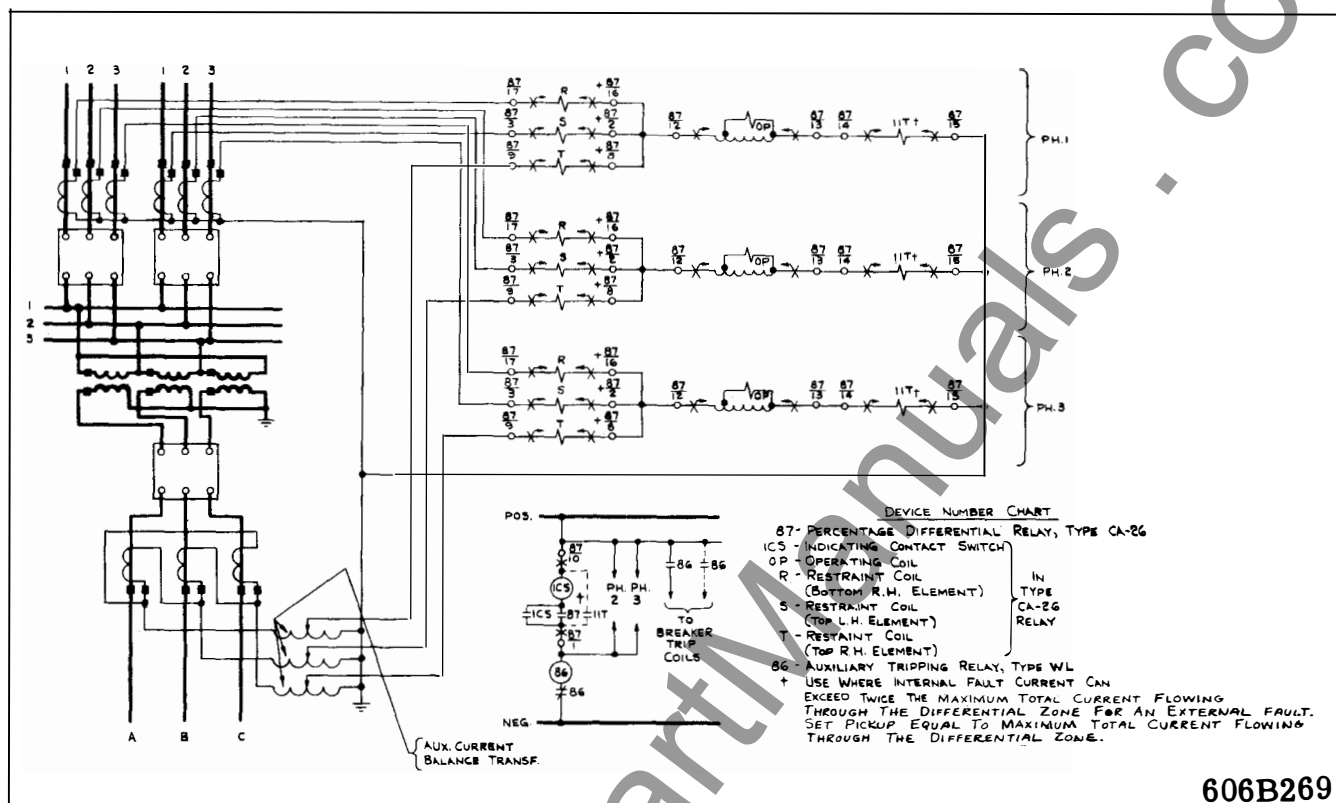

Fig. 10. External Schematic of the Type CA-26 Relay for Transformer Protection and Bus Protection
* Fig. 10 shows the CA-26 relay connections for a 3 circuit bus. Where additional circuits are present